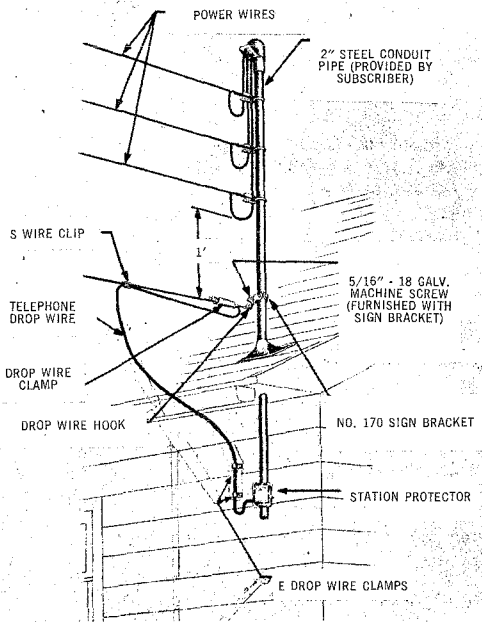

Fig. 14 — 123 Type Protector Installed on Power Stack With 72A Bracket
- 4.16 Using a 72A Bracket and a Station Ground Wire Clamp, install the protector in the manner described in Para. 4.11 of this practice. Place a 150A Cover over the protector and wires. This method of installation will result in the protector being mounted 90° from the normal position. Place a drip loop in the drop wire to prevent water running into the protector. Locate the protector on the power stack as close as possible to the point of entry into the building to reduce the amount of exposed station wire. (See Fig. 14.)